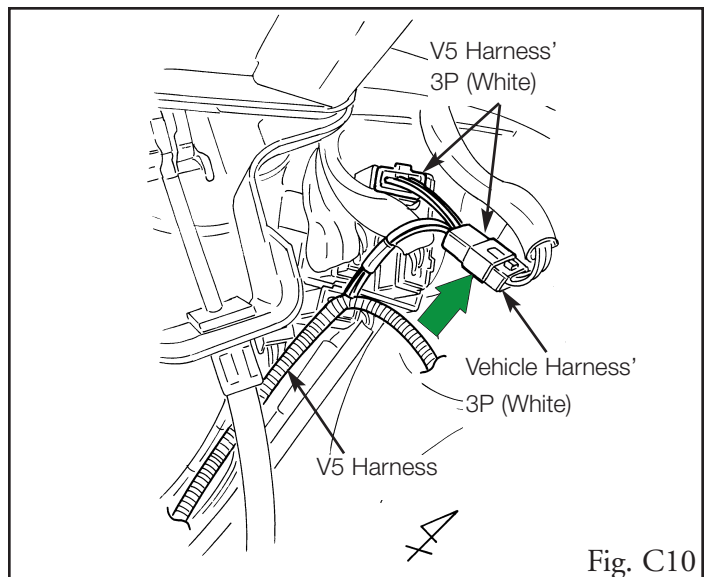

Fig. C10
13. Plug in the V5 harness' white 3P connectors into the vehicle's white 3P connectors. (Fig. C10)